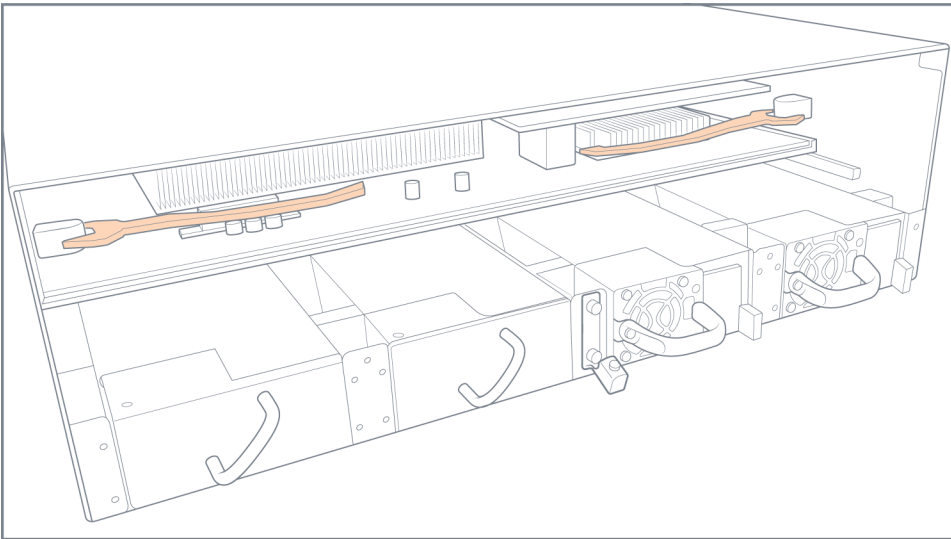

Figure 22: Control Card Seated
3. Seat the control card as shown in Figure 22: Control Card Seated.